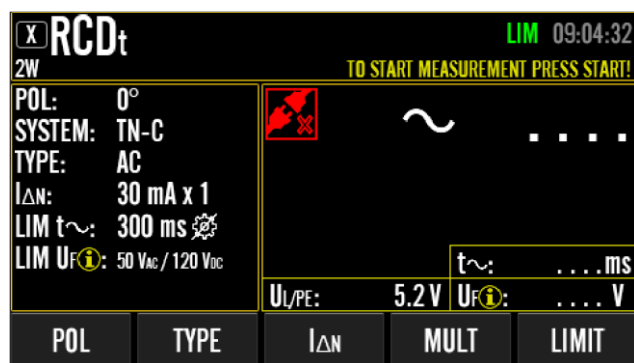

Figure 43: Idle screen in RCDt measurement with extended range of menu keys (after pressing “EDIT” menu key), example
- 5) Press “EDIT” menu key to get into idle screen with extended menu keys, see the figure 43 above.
- 6) Select/adjust all test parameters according to available menu keys shown on the figure 43 above.